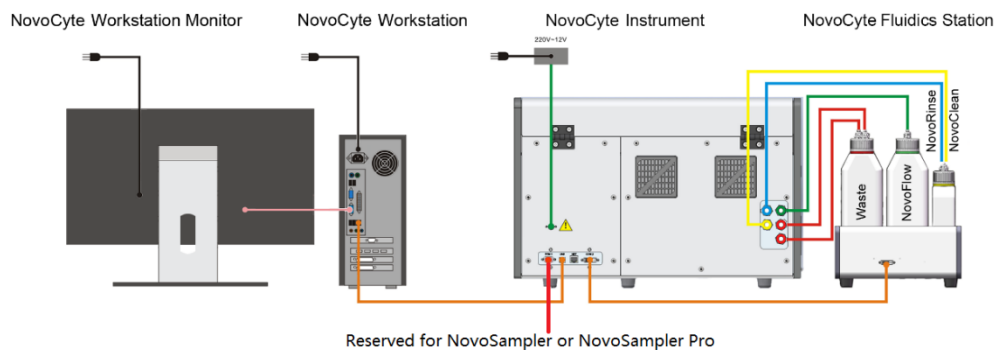

Figure 23. NovoCyte Flow Cytometer System Connection
Figure 23 illustrates the typical connection of the NovoCyte flow cytometer system. Please follow the instructions below to install each component.
- 1 Connect the workstation to the monitor using the included DisplayPort to Mini DisplayPort cable (Connection A in Figure 23). Connect the DisplayPort end of the cable to the back of the workstation. Connect the Mini DisplayPort end to the monitor.
- 3 Use the supplied USB cable to connect the NovoCyte flow cytometer to the USB port of the NovoCyte Workstation (Connection D in Figure 23).
- 4 Connect the workstation and monitor to the power supply (Connections B and C in Figure 23). For more details, please refer to the instructions from the computer and monitor supplier.
NovoCyte Fluidics Station is connected to the COM 2 port of the NovoCyte instrument through the supplied DVI cable (Connection E in Figure 23).